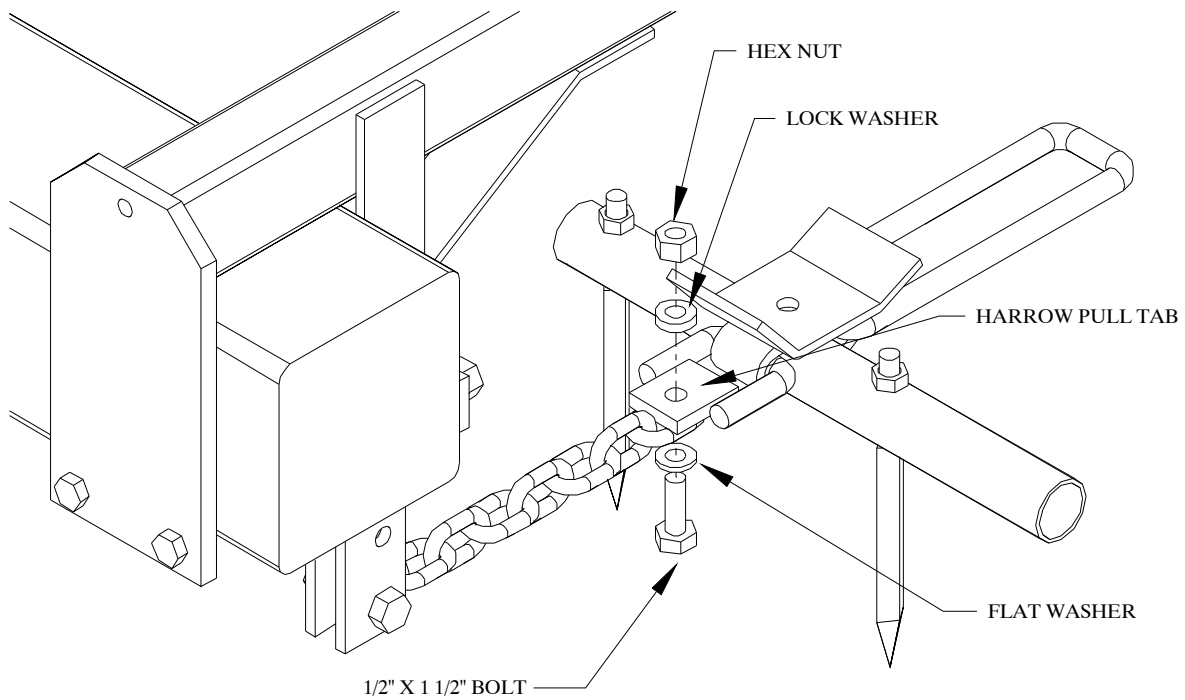

Figure 16
1. Bolt the pull chains to the front tabs on the harrow sections. Refer to Figure 16. Use ½” x 1 ½” bolts, flat washers, lock washers, and hex nuts. The chains should be bolted to the bottom of the pull tabs. Make sure that the chains are not twisted.
1. Bolt the pull chains to the front tabs on the front harrow sections. Refer to Figure 16. Use ½” x 1 ½” bolts, flat washers, lock washers, and hex nuts. The chains should be bolted to the bottom of the pull tabs.
1. Bolt the pull chains to the front tabs on the harrow sections. Refer to Figures 16 and 19. Use 1/2" x 1 1/2" bolts, flat washers, lock washers, and hex nuts. The chains should be bolted to the bottom of the pull tabs.